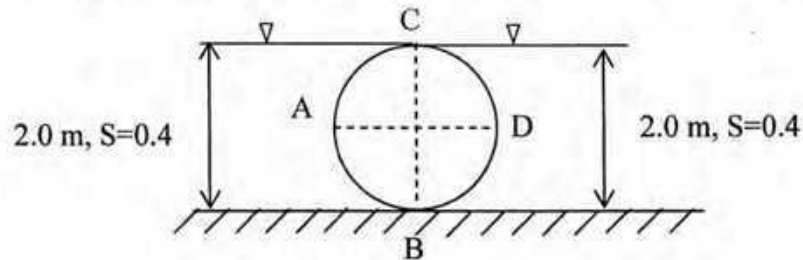

Figure 5
- b. Determine the horizontal and vertical forces acting on the curve surface AB on the cylinder in Figure 5. The cylinder is 1 m long. The diameter of the cylinder is 2.0 m. 7
- c. Determine the horizontal and vertical forces acting on the curve surface CD on the cylinder in Figure 5. 7
- d. What is the net vertical force acting on the cylinder shown in Figure 5, if it weighs 25.0 kN. Neglect friction. 5